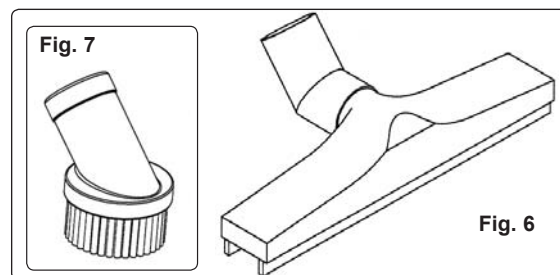

Fig. 6
- 4.1.2 The squeegee nozzle is used on water, cement or other non-volatile substances. Refer to Fig. 6.